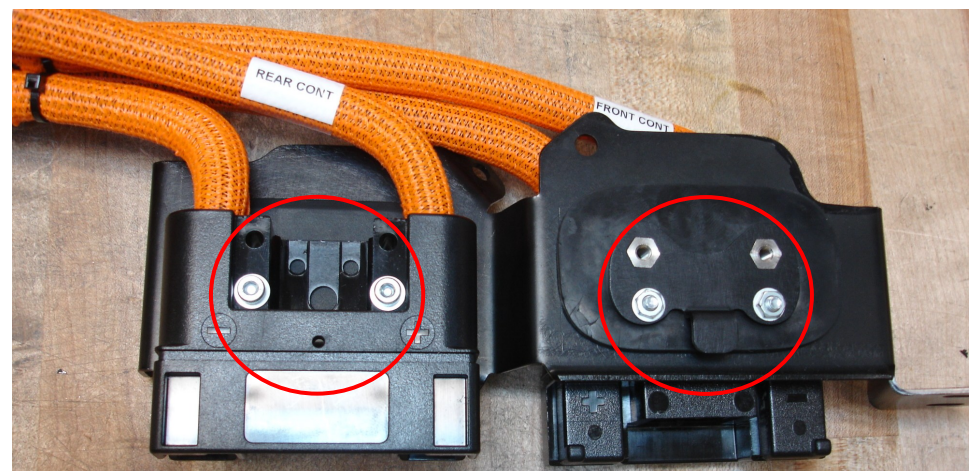

Figure 6
3. Attach black Anderson connector from X BIKE HARNESS (ITEM 7) to SEPARATOR BRACKET (ITEM 1), MOUNT RETAINER (ITEM 3). Use (x4) M4x40 SHCS (ITEM 4), (x8) M4 WASHERS (ITEM 5) and (x4) M4 THIN NUTS (ITEM 6). See FIGURE 6 for orientation.